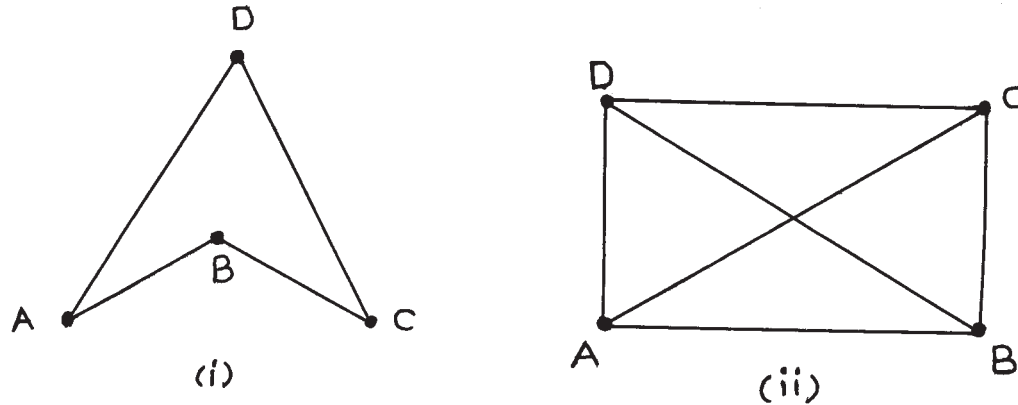

Fig. No. 1
- g) Make the following trusses perfect by adding or removing the members, if required as shown in Fig. No. 1.